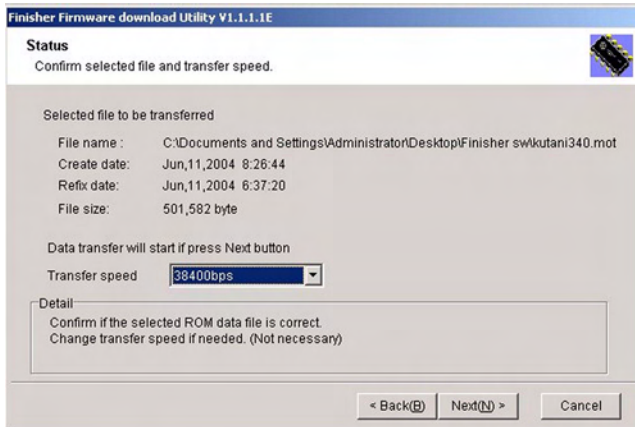

Figure 5 Verify selection
- e. In the Status window (Figure 5), verify that the selected file is correct and then click Next.